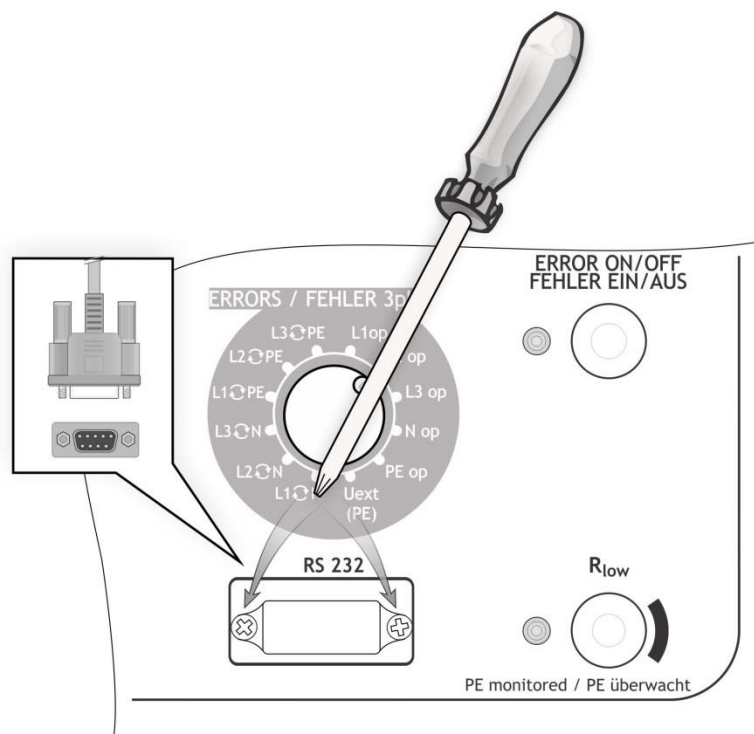

Figure 5.1: Upgrading the PRCD adapter
- › Unscrew two screws (as indicated in *Figure 5.1*) and remove RS 232 connector protection cover.